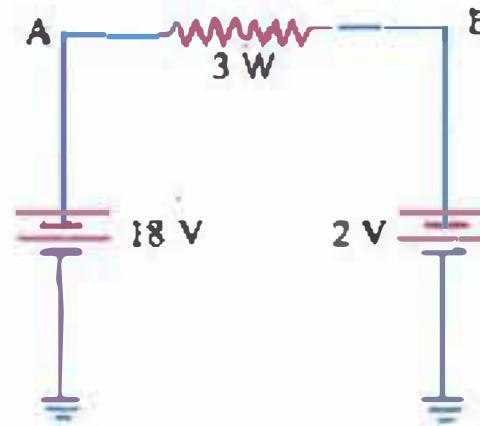

Fig. 1.20
6. Find the magnitude and direction of current in Fig. 1.20. [2A; from A to B]